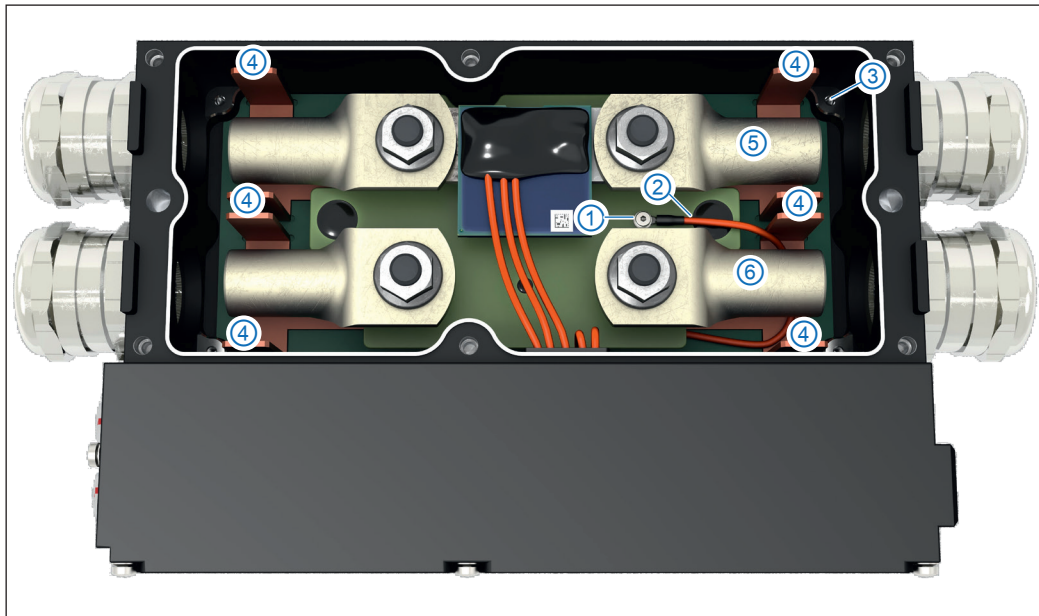

Fig. 5-46: HV BM 1.2+U, options for ground connection
How the HV power cables for an HV BM 1.2+U are to be mounted depends primarily on whether the shields are connected to the module housing via the cable glands or soldered to the feedthrough (Fig. 5-46, ④).
5.4.3.1 Current/voltage measurements (orange cable connected to housing/PE, Fig. 5-46, ③)
5.4.3.2 Current/voltage measurements (orange cable connected to isolated point, Fig. 5-46, ①)
- ▶ Voltage measurement between HV+ and HV- (Fig. 5-46, ⑥ and ⑤) (all HV BM 1.x)
- ▶ Voltage measurement between HV+ and housing (Fig. 5-46, ⑥ and ③) (only HV BM 1.2+U)
- ▶ Voltage measurement between HV- and housing (Fig. 5-46, ⑤ and ③) (only HV BM 1.2+U)
<p>For "+U" mode measurements, the thin orange cable (Fig. 5-46, ②) is connected directly to the module housing (Fig. 5-46, ③). The internal resistance of the measurement input, which is in parallel with the isolation barrier, reduces the effective isolation resistance in "+U" mode from 50 GΩ to 4 MΩ. If the module is not operated in "+U" mode, there is no reduction of the effective isolation resistance.</p> <p> Only use qualified and trained personnel.</p>